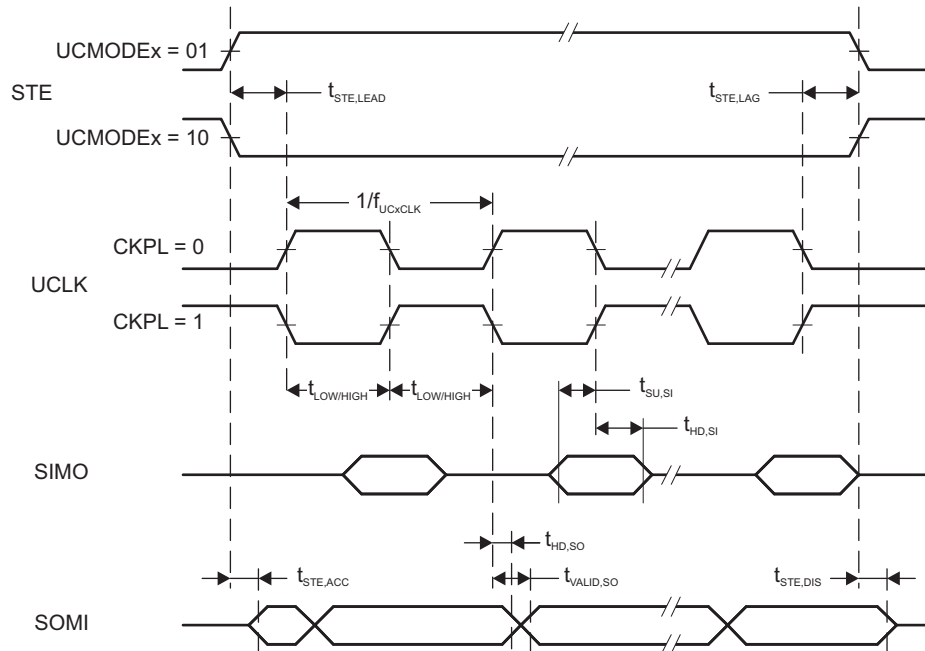
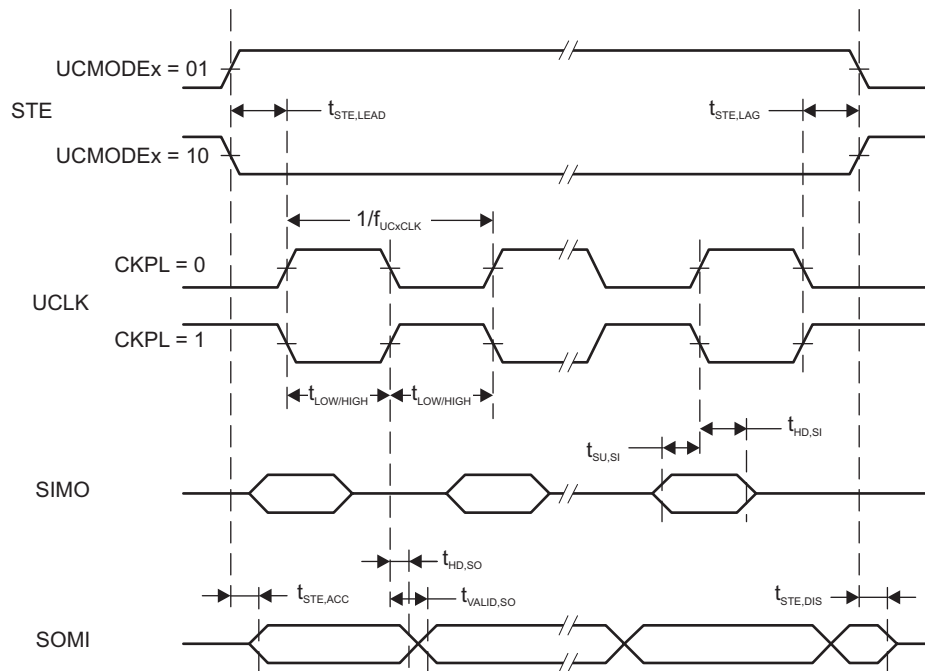

Figure 5-17. SPI Slave Mode, CKPH = 0
Figure 5-18. SPI Slave Mode, CKPH = 1
- (2) Specifies the time to drive the next valid data to the SOMI output after the output changing UCLK clock edge. See the timing diagrams in Figure 5-17 and Figure 5-18.
- (3) Specifies how long data on the SOMI output is valid after the output changing UCLK clock edge. See the timing diagrams in Figure 5-17 and Figure 5-18.